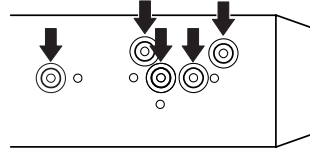
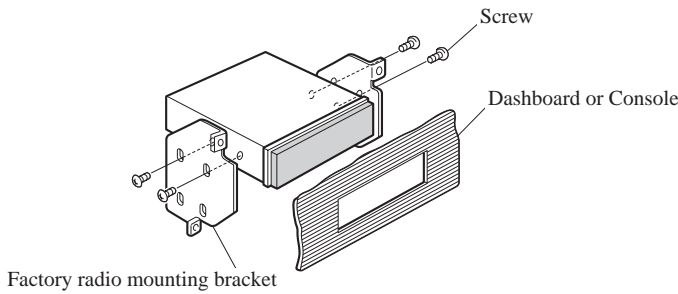

Fig. 8
Fig. 9
2. Fastening the unit to the factory radio mounting bracket. (Fig. 8) (Fig. 9)